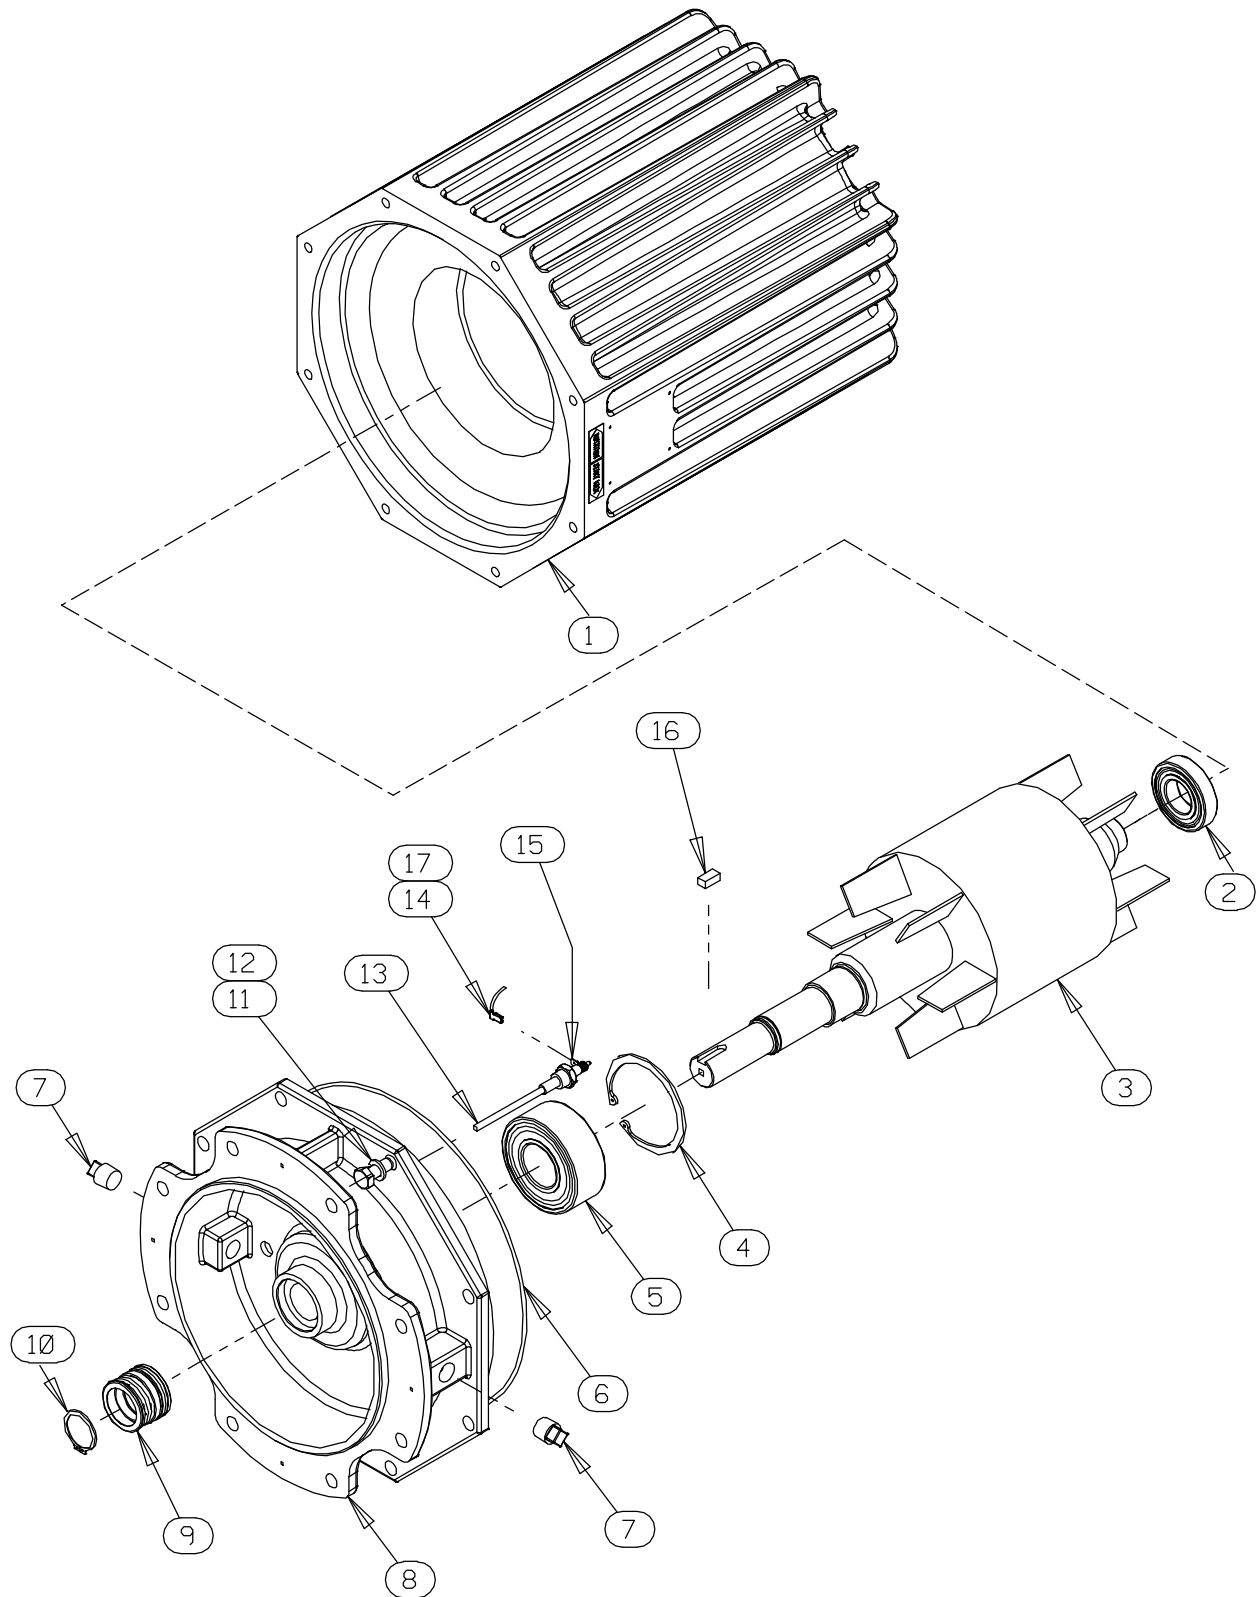

Figure E-2. 47111-821, -822 and -823 Motor Assemblies
**Draining Oil From Seal Cavity****(Figure E-2)**
To remove the impeller, use two thin-bladed screwdrivers positioned 180° apart to pry on the back of the impeller and “walk” the impeller off the shaft. Use increasingly larger screwdrivers (or wedges) as necessary. After the impeller comes free of the shaft, retain the impeller key (16, Figure E-2).